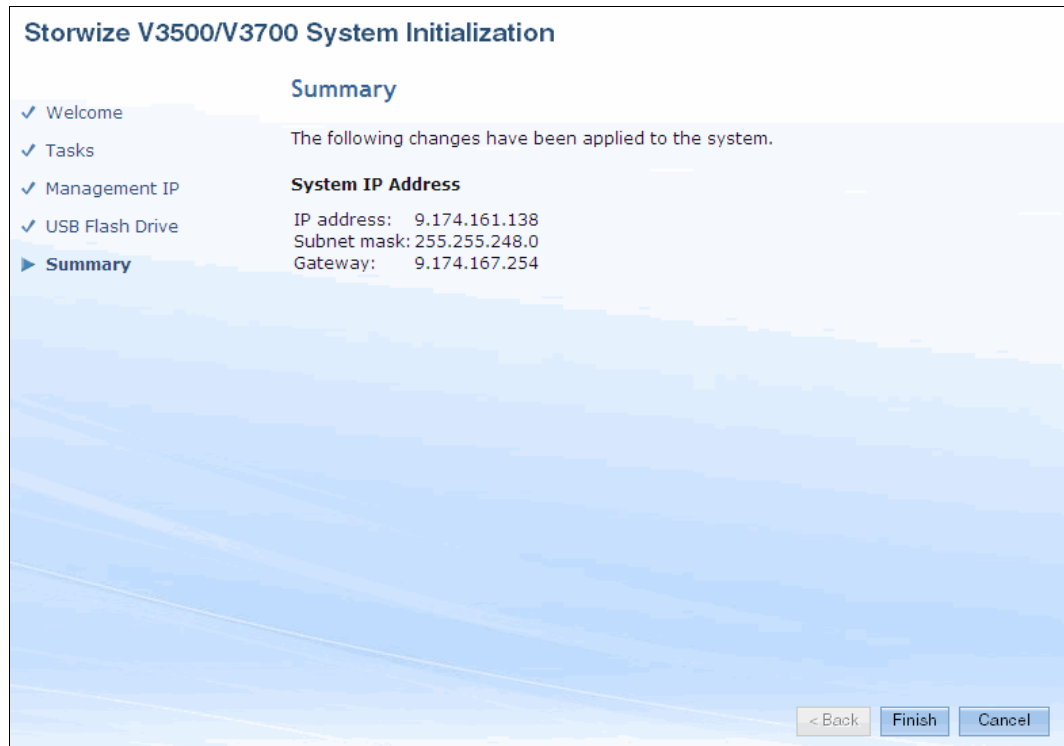

Figure 2-16 System Initialization Summary
9. If successful, a summary page is displayed that shows the settings that were applied to the IBM Storwize V3700, as shown in Figure 2-16.